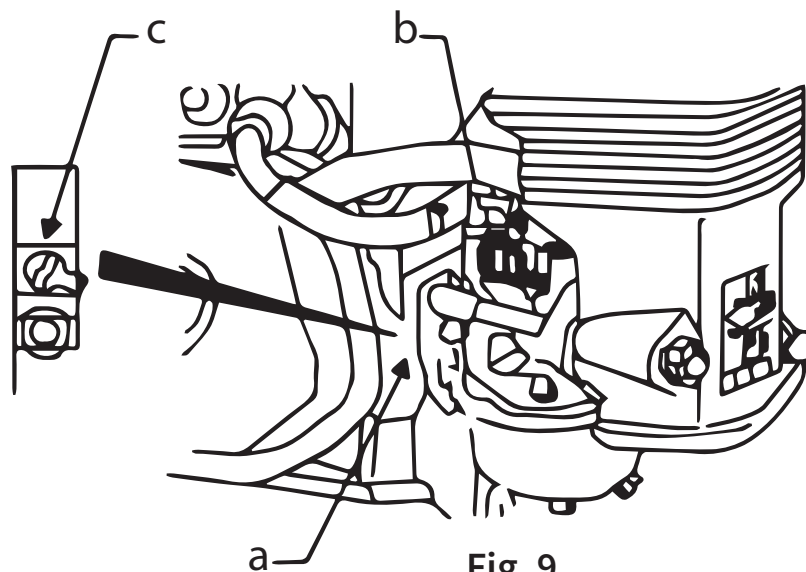

Fig. 9
4.9 Carburetor Adjustment (Fig. 9)